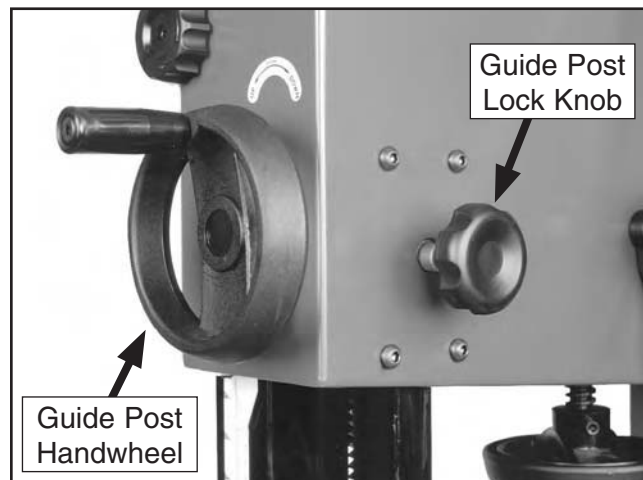

Figure 36. Guide post controls.
The guide post, shown in **Figure 36**, connects the upper blade guide assembly to the bandsaw. The guidepost allows the blade guide assembly to move up or down via a rack and pinion. In order to cut accurately, the blade guide assembly must be no more than 1" from the top of the workpiece at all times—this positioning provides the best support for the blade.
2. Loosen the guide post lock knob shown in **Figure 36**.